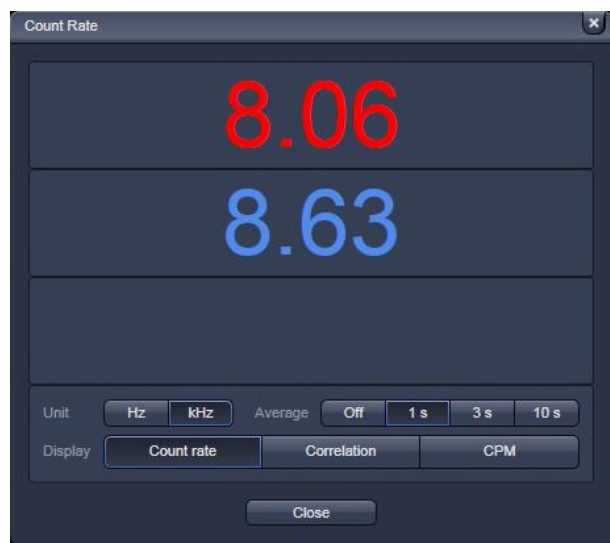

Fig. 314 Count rate window with count rate display
- Click the **Count rate** button to open the **Count rate** window (Fig. 314).
- Click the count rate **Display** button to display the count rate per second (CR) for each activated physical channel (Fig. 314). This value is constantly updated and calculated each 0.5 ms, if **Averaging** is switched **Off**. If system overload occurs, an error message will be displayed and the APDs switched off in order to avoid damage (Fig. 315). Press **Ok** to continue and laser light intensity or concentration of your sample.